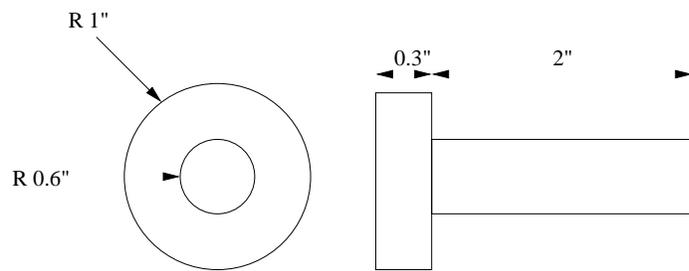

Figure 1: Milled Flange
- (a) Estimate the rate of production for the part in Figure 1 using the parameters from the following table. You may assume the part enters the cutting process as a rod that is 2.3 inches long at a radius of 1 inch. Plot the amount of power (in hp) required during the cutting of turning of this part.